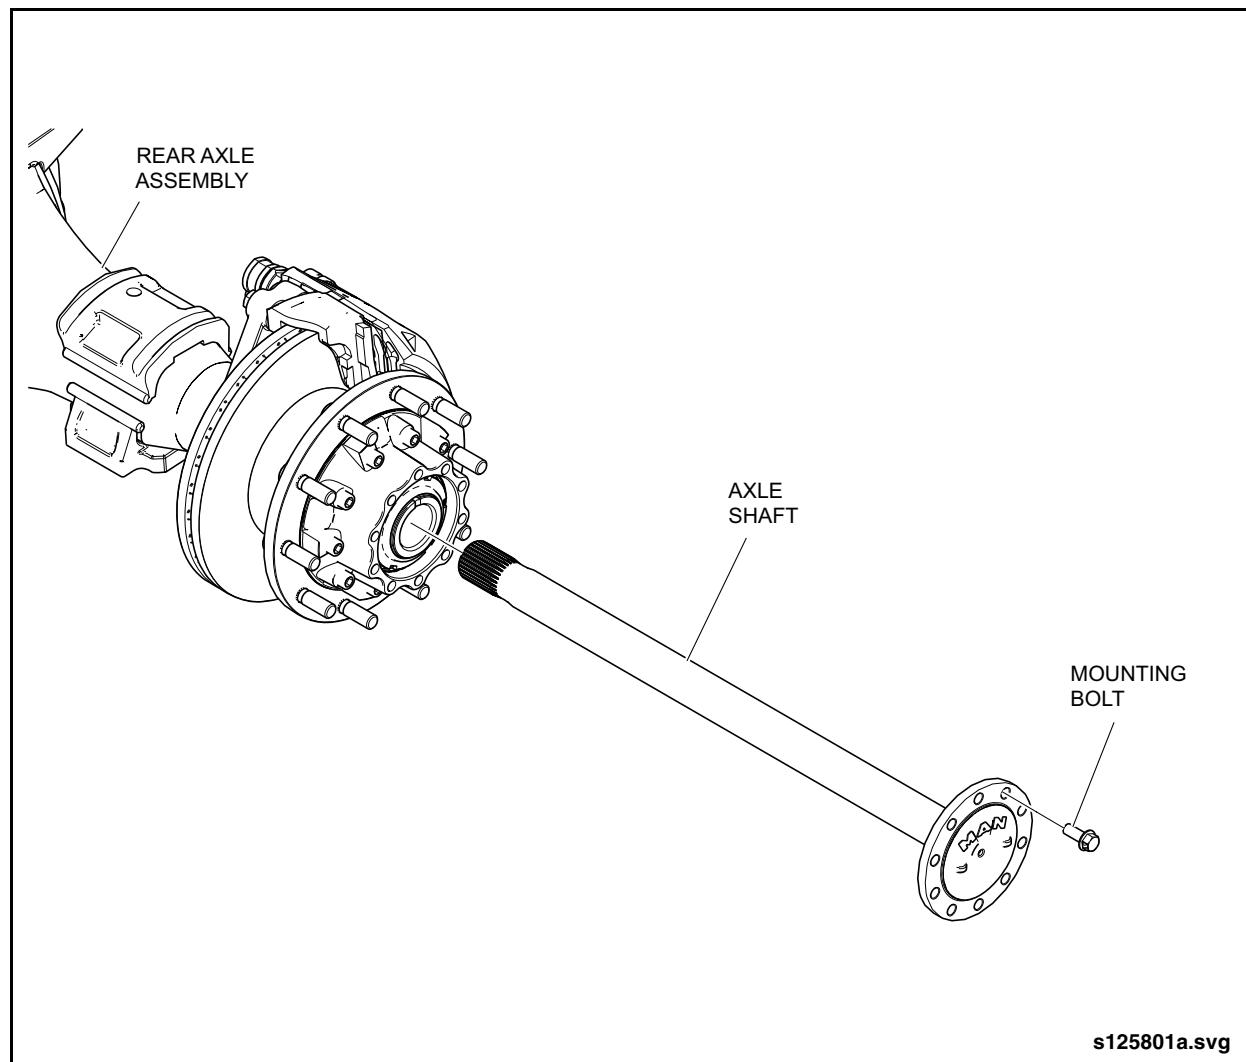

Fig. 2-8: Axle Shaft Removal & Installation
1. Remove and discard the mounting bolts. See "Fig. 2-8: Axle Shaft Removal & Installation" on page 12.